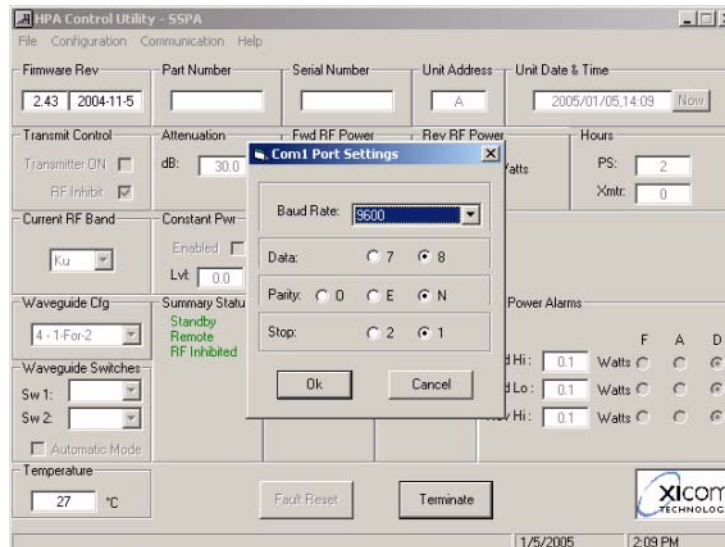

Figure 13, Set Ethernet IP Address
12. Refer to Figure 13. The “IP Adrs” menu allows you to tell the HPA Control program the IP address of the amplifier that you wish to communicate with.